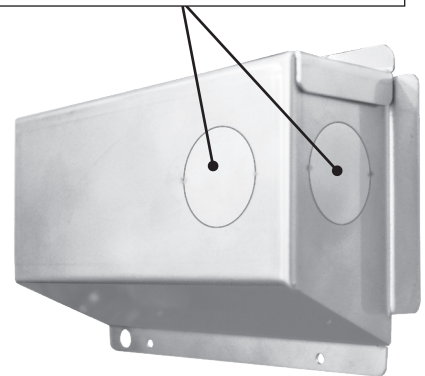

Fig. 25-2 Junction box knockouts
2. Remove the junction box located on the rear of the unit. Select and remove a knockout from the junction box that will best suit your electrical setup. Route the wiring through the selected knockout opening. See Fig. 25-2.